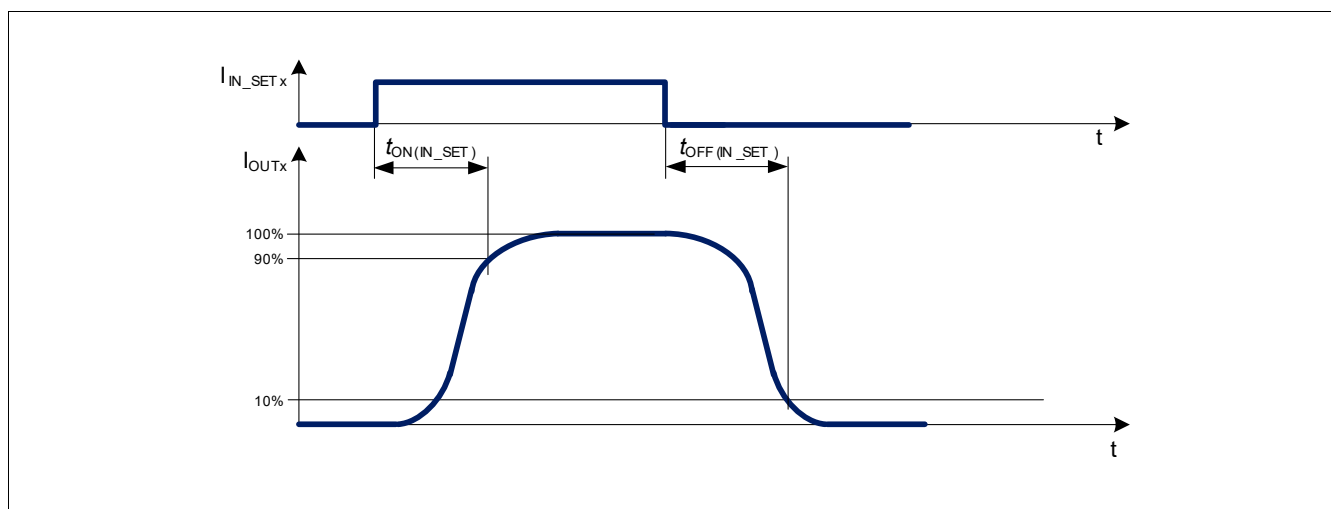

Figure 10 IN_SET turn on and turn off delay timing diagram
In the following diagrams (Figure 10) the influences of input on output deactivation delays are shown.
2) Refer to Figure 10